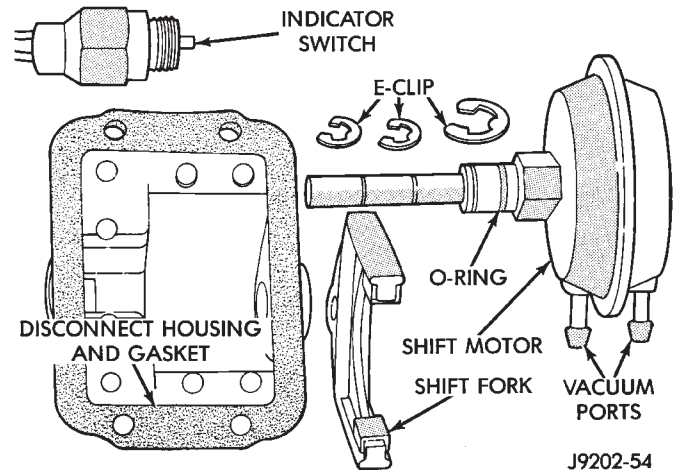

Fig. 61 Shift Motor Components
(1) Remove the E-clips from the shift motor housing and shaft. Remove shift motor and shift fork from the housing (Fig. 61).
(2) Remove the O-ring seal from the shift motor shaft.